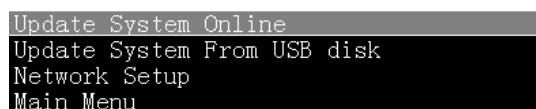

Fig. 5-10 Update System Menu
- Press **Esc** to return to Fig. 5-10 window and enter **Network Setup** to check whether the setting of **IP** and **Port** is correct. Then make sure the system is well connected to the network (e.g. check the connection of net cable);
- Cancel system update: Press **ESC** to return to Fig. 5-10 window;
If the user does not want to update the system, press **Esc** to return to the window in Fig. 5-10. If the user wants to update the system, press **Enter**, and the system will automatically install the new software and be rebooted to achieve update.
- 4) If the user does not want to update the system, press **Esc** to return to Fig. 5-10 window;
Press **Esc** to return to Fig. 5-10 window. Ensure that a USB disk is plugged in and it contains update file. Then continue the update operation.
- 3) Move the cursor to **IP** or **Port**. Use **Backspace** to delete the original **IP** or **Port**. Enter new **IP** or **Port** and move the cursor to select **OK**. Press **Enter** to return to Fig. 5-10 window;
- 5) If **IP** or **Port** is not modified, press **Esc** to return to Fig. 5-10 window.